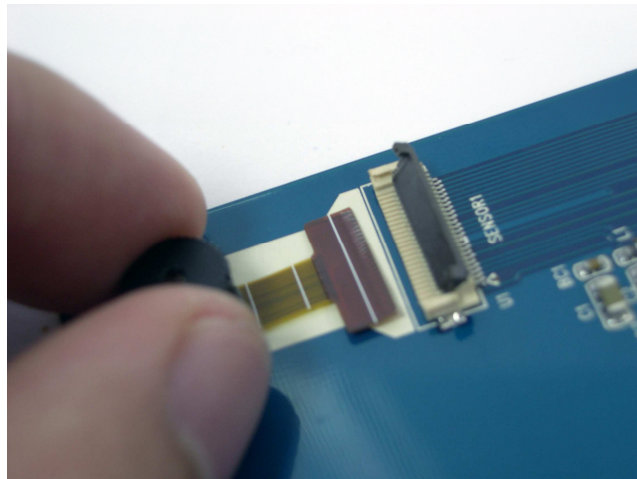

Figure 1.2 Connect the Sensor to “SENSOR1 U1” (For **DE2** Users ONLY)
1. For Altera DE2 board users, assemble the CMOS sensor lens into the 1st Sensor Connector (Sensor1-U1) on the **DC2** board, as shown in Figure 1.2.